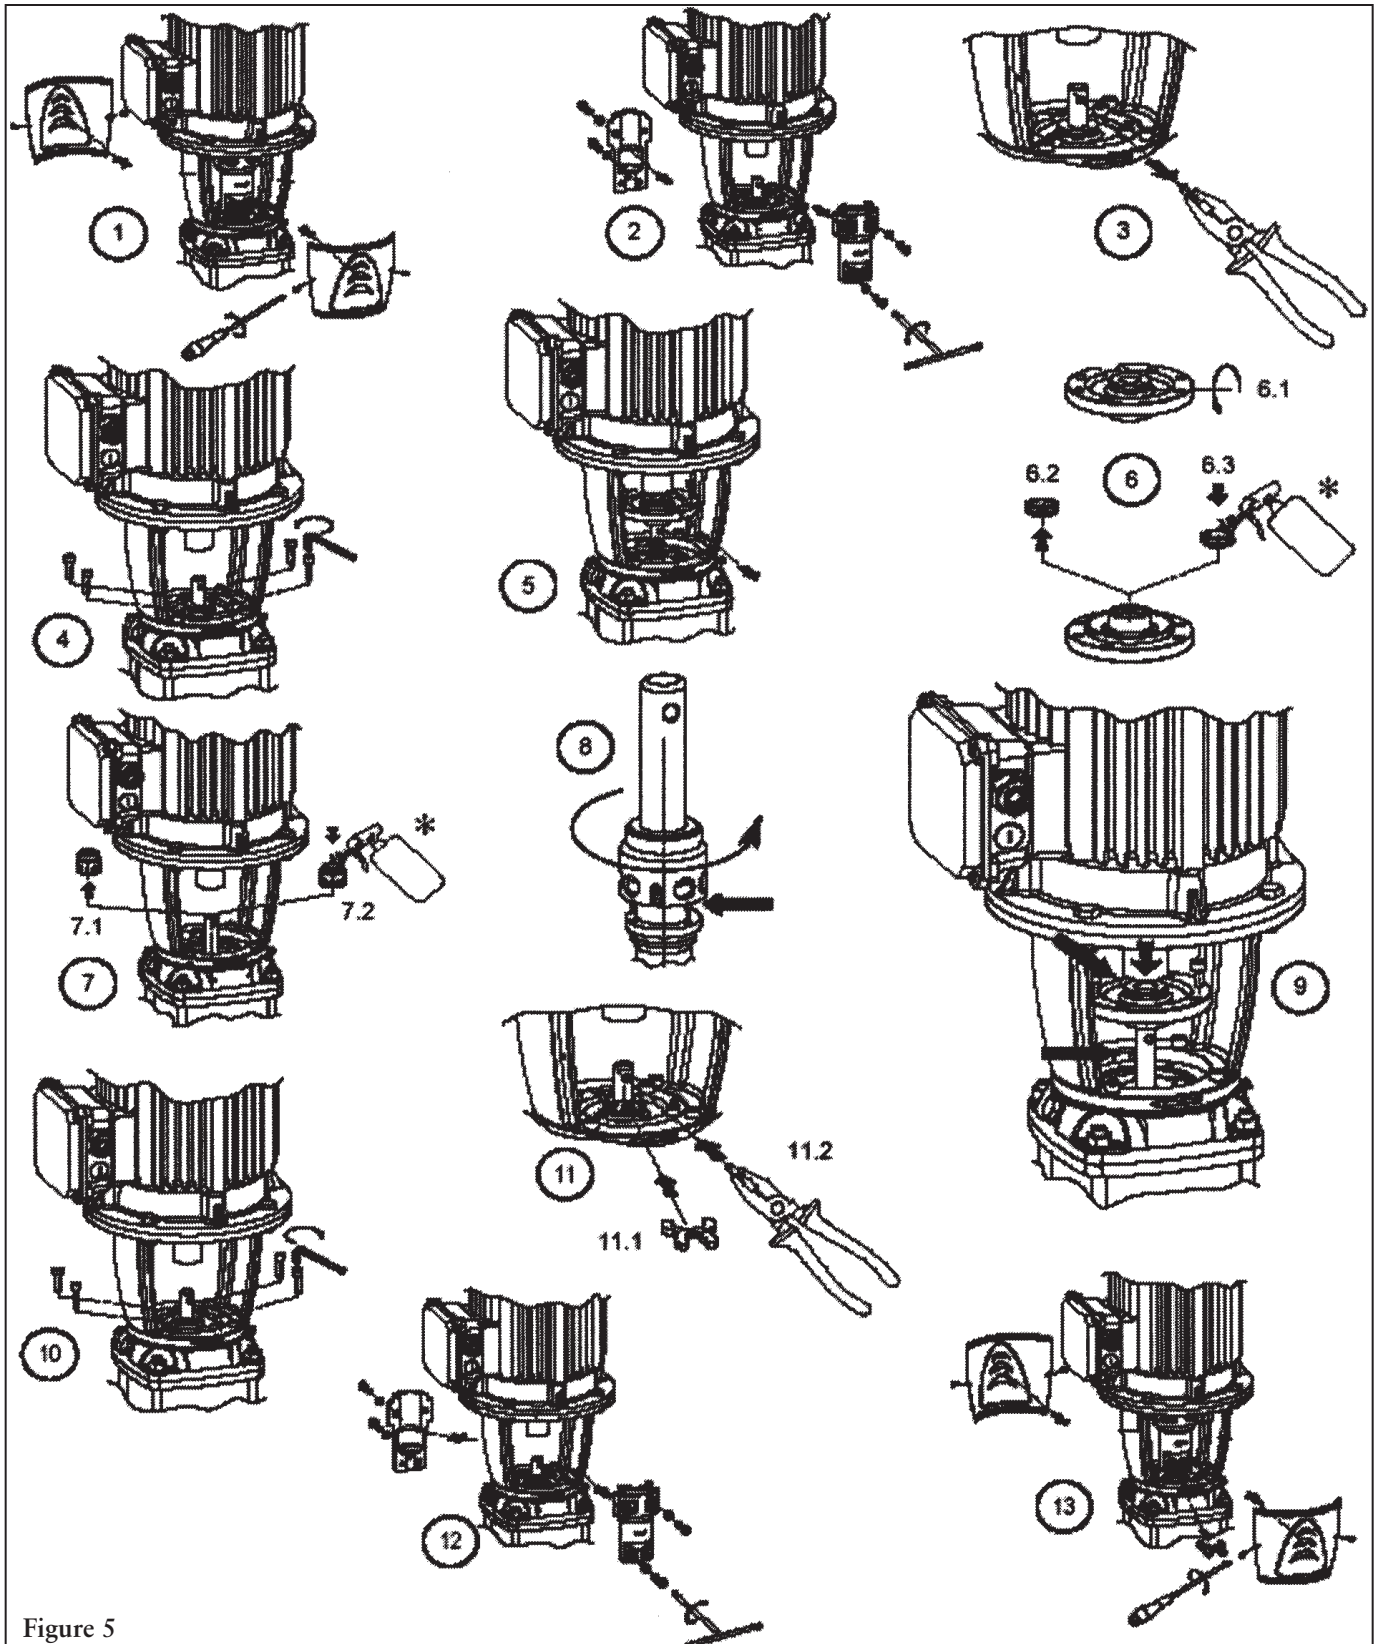

Figure 5
smooth with (fine grit) emery paper. See step 7 in Figure 5.
- Lubricate the o-ring located in the ID of the rotary unit of the mechanical seal with a lubricant compatible with the seal elastomers. Carefully slide the rotary unit of the mechanical seal down the shaft. Rotate the seal to locate the pin on the bottom of the seal with the holes in the shaft sleeve. Cycle seal up and down to lubricate o-ring and prevent seal from sticking to shaft. See step 8 in Figure 5.
Carefully reinstall the seal housing between the pump and motor shaft and slide the seal housing down the shaft into position. **Use caution when mounting the sealhousing between the pump/motor shaft so that the seal face on the stationary seat is not damaged.** See step 9 in Figure 5.
10. Reinstall the 4 hex cap screws, tightening the screws evenly and then torquing them to the values given in the engineering data. See step 10 in Figure 5.
11. Reinstall the coupling pin and locate the space shim on the shaft on the seal housing. **If the shim is not available, a 5 mm spacer can be used.** See step 11 in Figure 5.
12. Reinstall the coupling halves and evenly tighten the coupling bolts and torque them to the values given in the coupling section. Remove the spacer shim and save for future use. See step 12 in Figure 5.